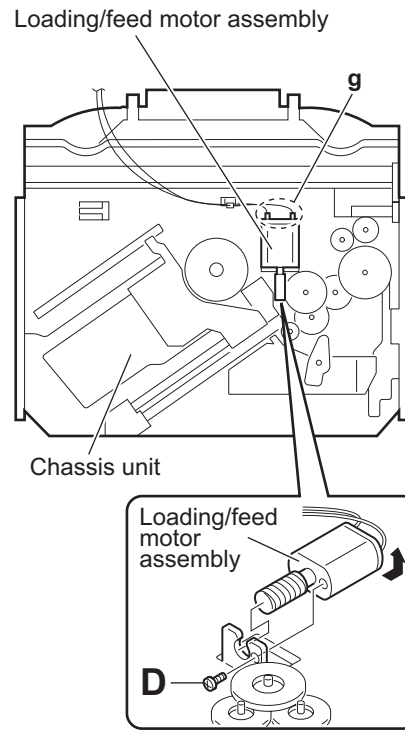

Fig.9
3.2.6 Removing the loading/feed motor assembly (See Fig.9)